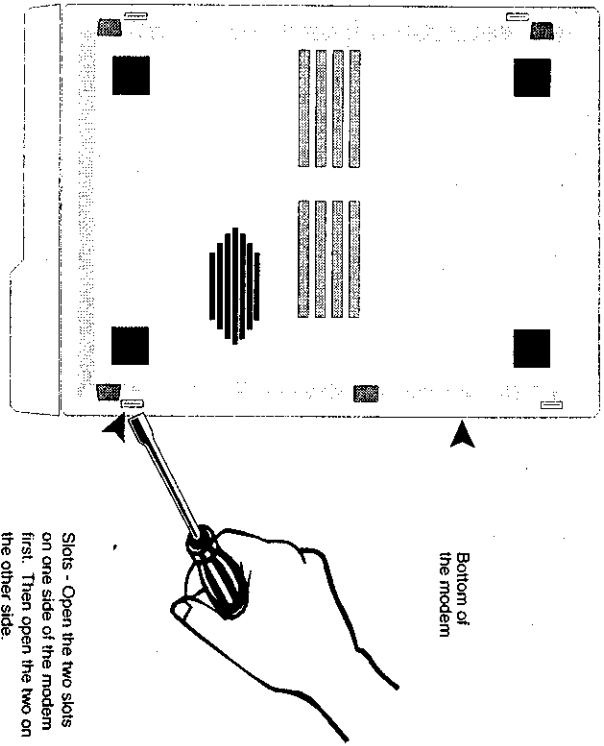

Figure C-1. Cover Removal
- 2) To disengage the cover's locks from the base of the modem, insert a medium size flat screwdriver blade in one of the slots as illustrated in Figure C-1. DO NOT PUSH the screwdriver, but pry the lock open by applying pressure toward the unit.